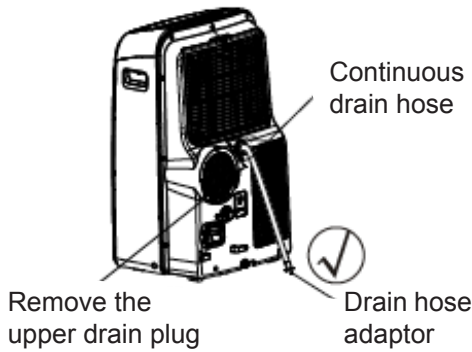

Fig. 20a
- During dehumidifying modes, remove the upper drain plug from the back of the unit, install the drain connector(5/8 universal female mender) with 3/4 hose(locally purchased). For the models without drain connector, just attach the drain hose to the hole. Place the open end of the hose adaptor directly over the drain area in your basement floor. Please refer to Fig.20a.
Make sure the hose is secure so there are no leaks. Direct the hose toward the drain, making sure that there are no kinks that will stop the water flowing. Place the end of the hose into the drain and make sure the end of the hose is down to let the water flow smoothly. (See Fig.20a,20b,21a). Do never let it up. (See Fig.21b).